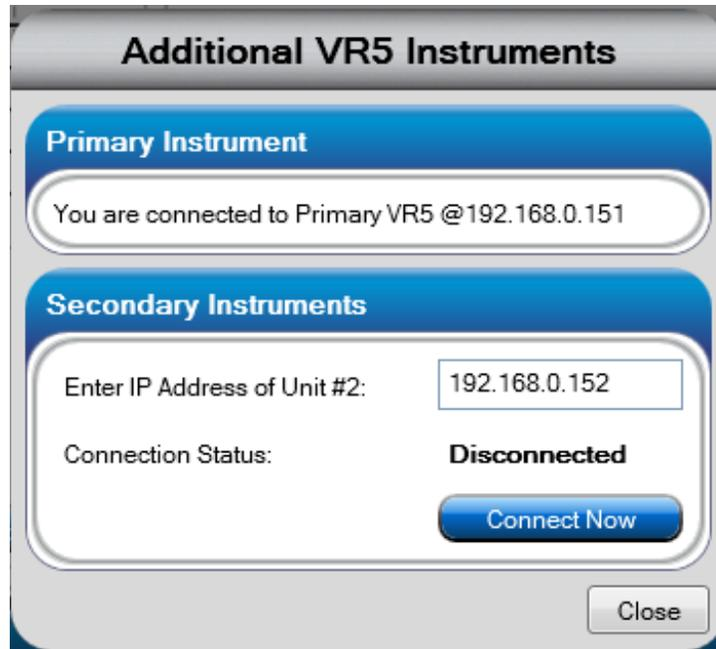

Figure 3-11: Additional VR5 Instruments Window
5. The *Additional VR5 Instruments* window displays, as shown in Figure 3-11.
6. In the *Enter IP Address of Unit #2* field, enter an IP address in the same subnet as the Primary VR5, as shown in Figure 3-11. This will be the IP address of the secondary VR5.